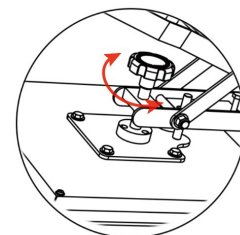

Fig 4
5. To adjust the pressure (as shown in Figure 4), Turn the pressure knob to the desired pressure.